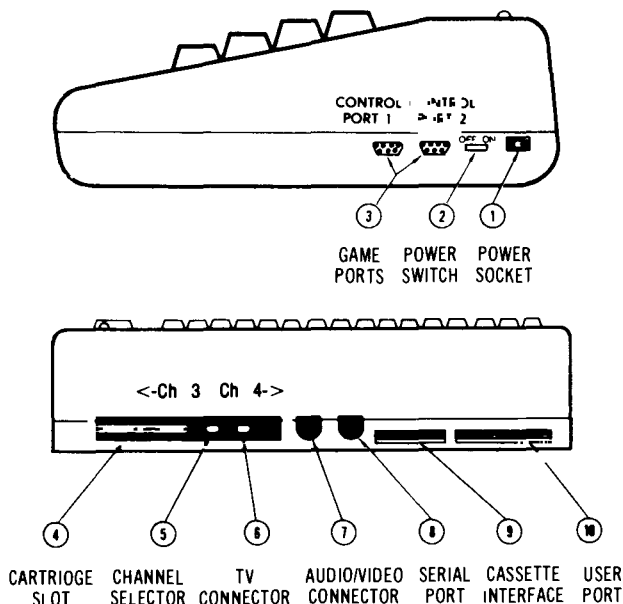

Figure 2.1 Commodore 64 Panel Connections Diagram
Before you can connect your Z80 cartridge, you must know where to connect it. Figure 2.1 shows a diagram of the side and back panel connections for your computer.
2. Install the Z80 cartridge in the cartridge slot marked 4 in the diagram in Figure 2.1.
2. Install the IEEE interface cartridge in the cartridge slot marked 4 in the diagram in Figure 2.1.
Connect the single VIC disk drive to the *serial port* (marked 8 in the diagram in Figure 2.1). For full details on connecting a VIC 1541 disk drive to your Commodore 64, see the manual that comes with the drives.